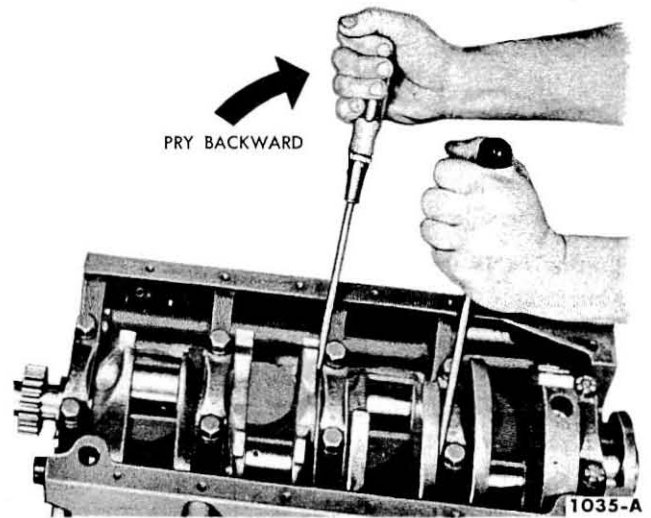

Fig. 38—Pry Cap Backward
3. Hold the crankshaft forward and pry the thrust bearing cap to the rear (Fig. 38). This will align the thrust surfaces of both halves of the bearing.